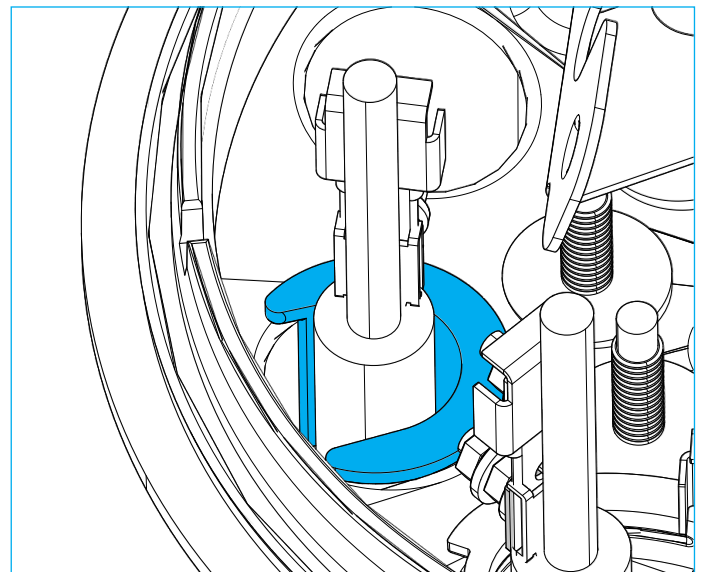

Figure 24.
9.2.5.6 Pull the cable down until the spacer is completely bottomed out in the Base. (Figure 24)